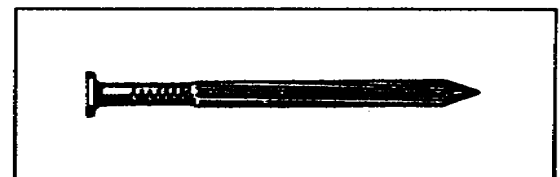

Figure 1-31. Masonry nail
(5) Masonry (Concrete) Nails. Masonry nails (Figure 1-31) are available in lengths from 1/2 inch to 4 inches, with a single head. These nails are usually hardened steel. Concrete nails are thicker and are used to fasten metal or wood to masonry or concrete.